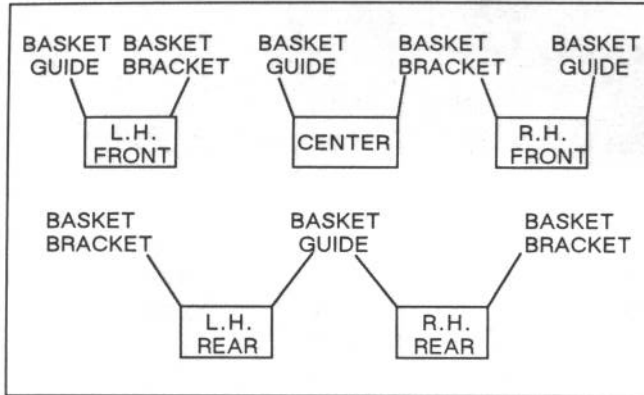
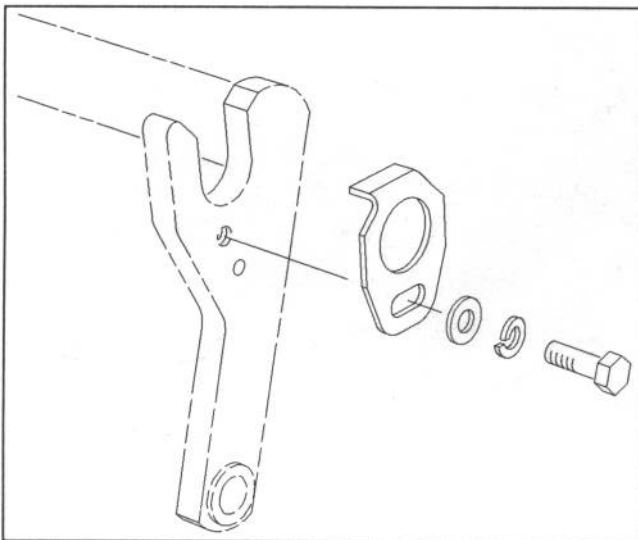
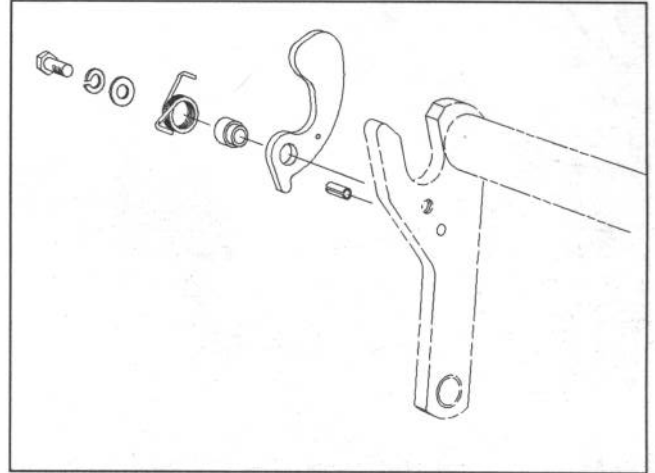
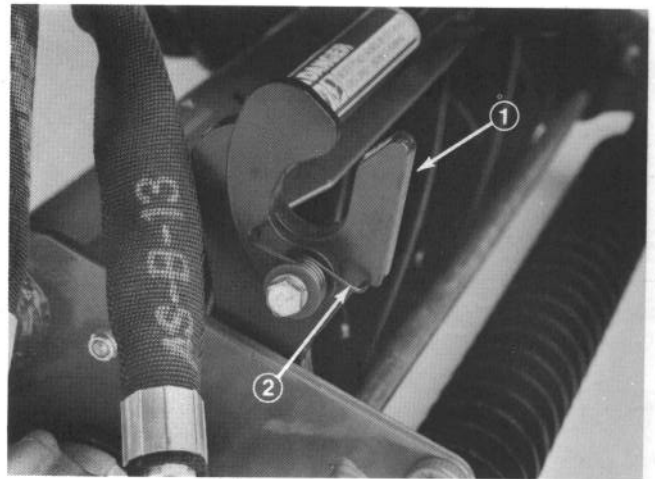

Figure 4
Figure 5
Figure 6
Figure 7
2. Using chart below (Fig. 4) determine the locations at which basket guides or basket brackets must be mounted to cutting unit carrier frames.
3. Mount a basket guide (Fig. 5) to the appropriate side of each cutting unit carrier frame (see figure 4) with a capscrew (5/16 x 1-3/4" lg.), flatwasher and lockwasher as shown in figure 5.
4. Install a roll pin (Fig. 6) into hole in appropriate side of each cutting unit carrier frame (Fig. 4).
5. On the same side of carrier frame as roll pin is installed, mount a basket bracket with capscrew (5/16 x 1-3/4" lg.), lockwasher, flatwasher, torsion spring, basket collar as shown in figure 6. Torsion springs are different for L.H. and R.H. sides of carrier frames. Three are (2) L.H. and (3) R.H. springs. Longer leg of spring is to be positioned forward as shown in Fig. 7.